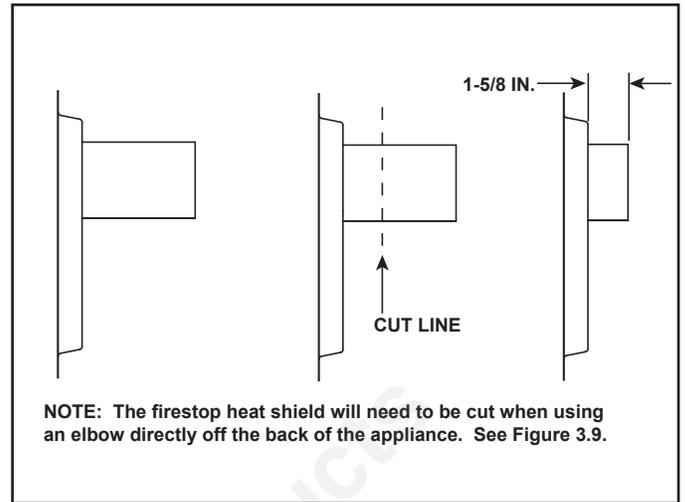

Figure 3.10 Wall Firestop Clearances
**Note:** The firestop shield will need to be trimmed when venting with a 90 degree elbow directly off the back of the appliance. See Figure 3.10.